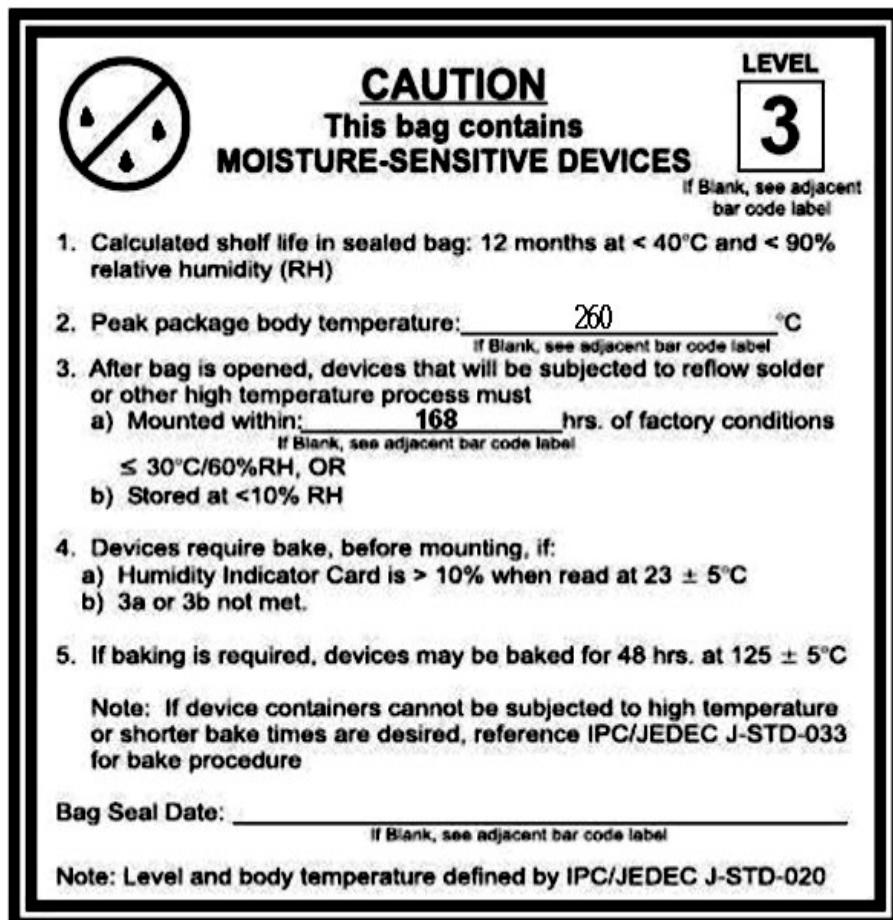

Figure 10 Storage Condition
- SMT patch should on the basis of reflow profile diagram, maximum temperature 245°C , reflow profile diagram is shown in figure 10;